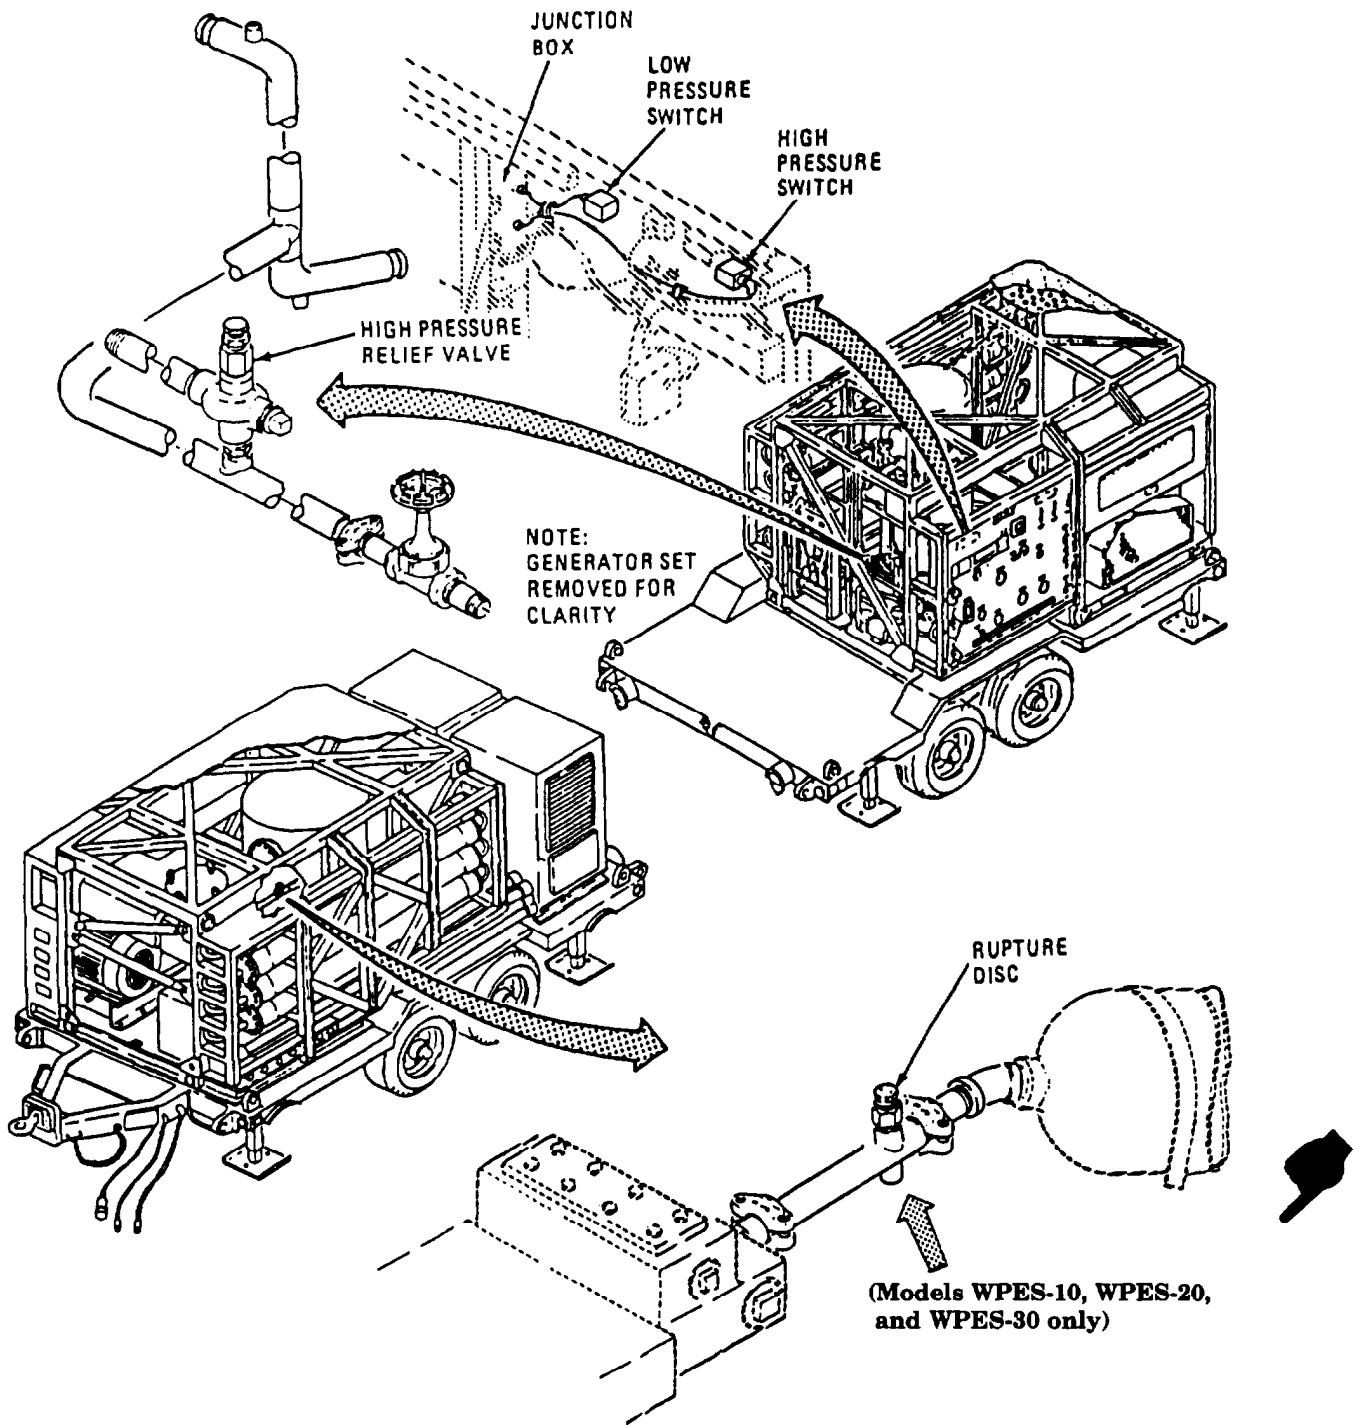

Figure 2-17. Safety Devices.
- p. Safety Devices. Refer to figure 2-17. The ROWPU has four automatic safety devices: the high pressure relief valve, high pressure switch, low pressure switch and rupture disc assembly.